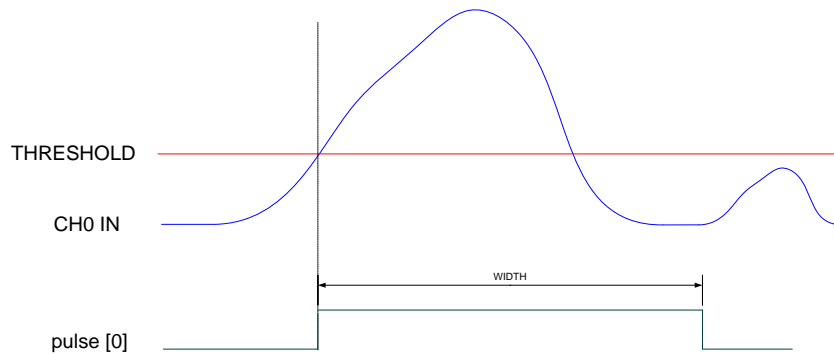

Fig. 9.14: Channel pulse signal
- a pulse of configurable width (see Fig. 9.14); the width parameter can be set at register address 0x1n70.